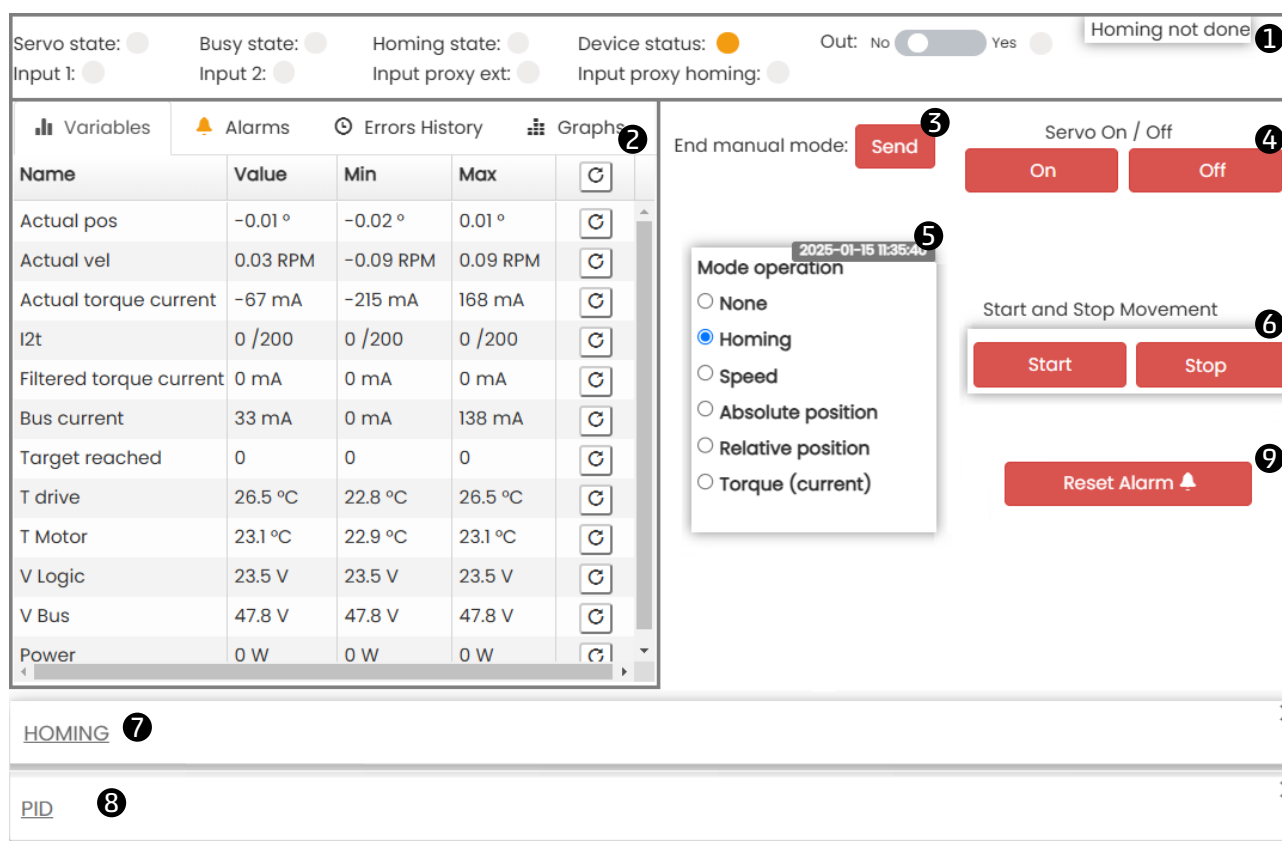
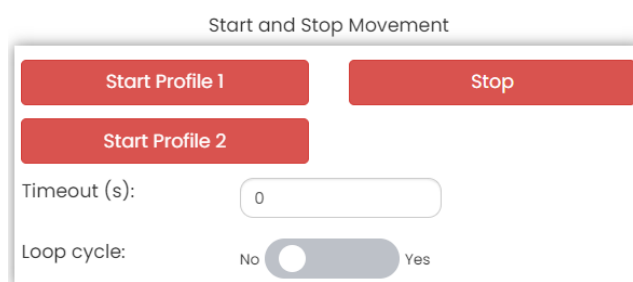

Figure 7.13: Standard commissioning page.
Figure 7.14: Section of the Start and Stop for not Homing modes.
Standard commissioning page (Figure 7.13) is visualized when Digital Input mode is disabled.
Command of the movement ⑥ depends on operation mode selected. In case mode operation is set to *None* or *Homing* the only commands available are *Start* and *Stop* movement, as shown in Figure 7.13. Otherwise the Command of the movement changes, as shown in Figure 7.14.